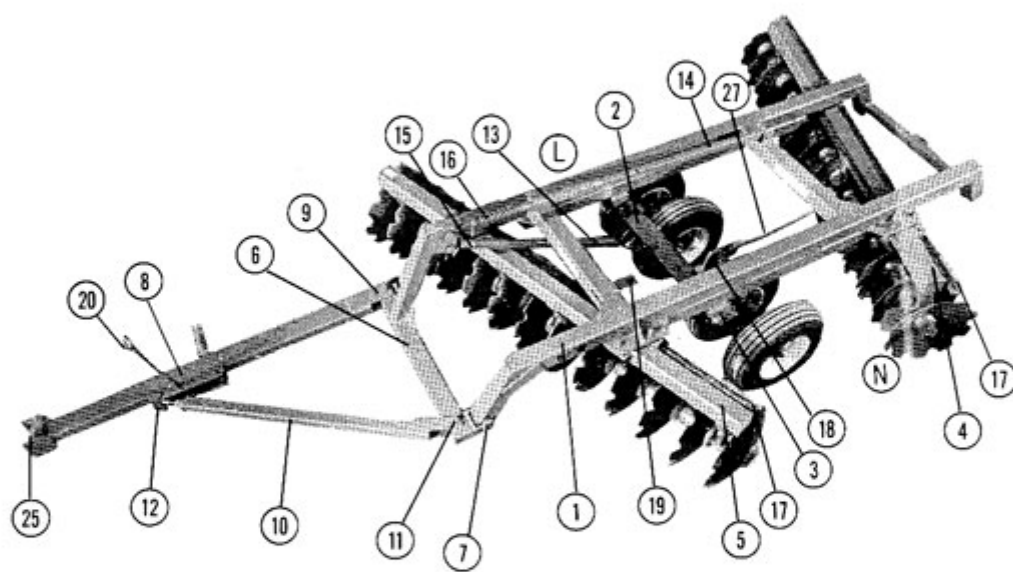

Figure 1
- To Install Wheel Carriage and Wheels:** (Refer to Figure 1) Place wheel carriage(2) under the main frame(1) and attach frame with pins(3). Install 5/16 x 2 lock bolts in pins and tighten lock nuts securely. Install wheels on to hubs with wheel bolts provided and tighten securely.
- To Attach Gang Bars to Frame:** (Refer to Figure 1) Bolt rear gang bar(4) to main frame(1) in center set of offsetting holes and in next-to-maximum angle with 3/8 x 3 1/2 bolts. Install leveling washers on top of angling plates on long side of disc(L). Install leveling washers between gang bar and angling plates on narrow side of disc(N). Bolt front gang bar(5) to main frame in next to maximum angle with 3/8 x 3 1/2 bolts. Install leveling washers same as rear gang.
- To Attach Hitch Bridle to Frame:** (Refer to Figure 1) Place bridle(6) at front of frame(1) and attach with pins(7). Install lock bolts and tighten nuts securely.
- To Attach Hitch Pole to Bridle:** (Refer to Figure 1) Attach main hitch pole(8) to bridle(6) at lead corner(9) with 1 x 6 bolt. Attach hitch side arm(10) to opposite side of bridle(11) with 1 x 6 bolt. Join hitch pole and side arm with 1" pin at adjustable eye bolt(12). Tighten all bolts securely.
- To Attach Fore-Aft Leveling Assembly:** (Refer to Figure 1) Install short tube(13) to wheel carriage with 1" pin. Install long tube(14) with 1" pin. Slide short fore-aft eye bolt(15) into bottom tube(13) (pinned to wheel carriage) and pin to bottom hole of bridle mast(6). Slide long fore-aft eye bolt c/w spring and washers into top tube(14) (attached to main frame) and pin to top hole of bridle mast(6).
- To Attach Scrapers:** (Refer to Figure 1) Attach scraper bars(17) to gang bars (4 & 5) with carriage bolts provided. Attach scrapers to scraper bar with clamps and bolts provided use care to adjust scrapers close to discs but not rubbing.
- To Double Wide Right and Left Hand Offsets:** (Refer to Double Wide drawing). Set together following regular instructions except item No. 4 - to attach hitch pole to bridle - the hitch pole is attached to the opposite side from the lead corner and the side arm is attached to the lead corner with 1 x 6 bolt. Set left hand disc(1) stationary and pull right hand disc(1) along side leaving front gang of right hand disc behind front gang of left hand disc. Attach rear spreader bar(5) with pins. Attach front spreader bar(6) with pins. Join right hand main hitch pole to left hand main hitch pole(3) with 1 1/4" pin(7). Adjust swivel flapper with 1 x 6 bolt for proper direction(8).
1. **Hydraulic Cylinder and Hoses:** (Refer to Figure 1) A standard 8" stroke double acting hydraulic cylinder is required to lift disc. Two 18 ft. hydraulic hoses are needed to allow full offsetting and turning without hose damage.
2. **Angle Changing:** (Refer to Figure 1) To change angle. Raise disc on wheels until discs are clear of ground. Remove bolt(21) and loosen the three remaining bolts. Slide gang bar forward or backward as desired. Replace bolt and tighten all bolts securely. For ordinary conditions set both front and rear gangs in next to maximum angle. Increase angles as required to suit conditions.
4. **Offsetting The Hitch:** (Refer to Figure 1) This unit is designed to trail straight behind the tractor. Minimum side draft will be obtained when the hitch is in line with outside beam of main frame. If more adjustment is required screw hitch side arm eye bolt(12) to desired position, then retighten jamb nut to reduce pressure on eye bolt thread.
5. **Hitch Height:** (Refer to Figure 1) The hitch pole should always be as near level as possible when discing. Flapper hitch(25) can be raised or lowered to proper tongue level of tractor. (Not adjustable on Series 250)
- A. **Front to Rear:** (Refer to Figure 1) With disc raised and hitch to tractor, adjust bottom fore-aft eye bolt(15) until main frame is level. Adjust fore-aft spring lock(16) until spring is snug. The top spring should be under some compression when discing, but should never be compressed solidly. NOTE: In general use as little pressure as possible when discing.
7. **Transporting:** (Refer to Figure 1) Disc may be transported without using hydraulic cylinder. Place the rod(27) through the hole in anchor on frame(1) and place clevis over transport block. Raise the disc until the cylinder has reached the end of its stroke. Insert pin in clevis and adjust transport rod nut until there is about 1/8" between nut and transport anchor. Release pressure on hydraulic cylinder and remove. **CAUTION:** Extreme care should be taken not to collapse the cylinder too much with the transport rod in transport position.